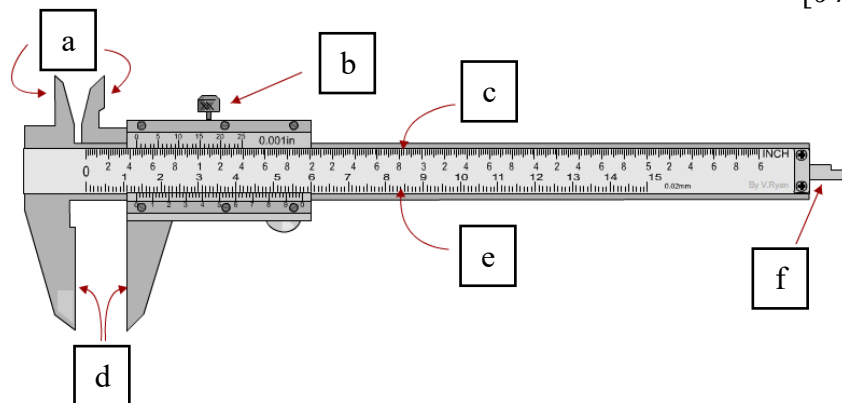

Figure 1(a)/Rajah 1(a)
- (a) Name the **SIX (6)** parts of the vernier caliper as shown in **Figure 1(a)**.